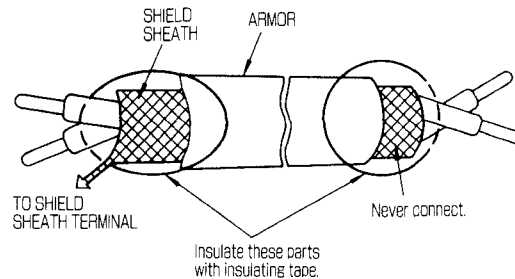

Fig. 11.5 Shielded Lead Termination
(1) Control signal leads (1CN to 3CN) must be separated from main circuit leads (R, S, T, U, V, W) and other power lines and power supply lines to prevent erroneous operation caused by noise interference (Electromagnetic interference).
(2) When a twisted shielded wire is used for the control signal line, the terminal must be insulated as shown in Fig. 11.5, except for the motor encoder signal line between the inverter and the motor which must be connected on both ends because the encoder signal line in the motor is a multicore shielded cable. The extension of the control signal line including the encoder signal line must be 20 m or less.